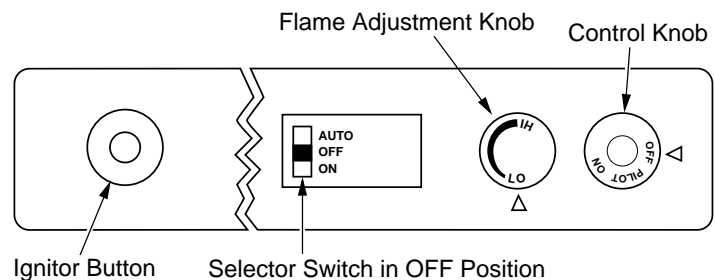

Figure 34 - Control Knob and Ignitor Button Location (Shown as Supplied, No Control Options)
4. Press in and turn control knob clockwise  to the OFF position (see Figure 34).
5. Wait five (5) minutes to clear out any gas. Then smell for gas, including near the floor. If you smell gas, STOP! Follow "B" in the safety information, starting in column 2, page 19. If you don't smell gas, go to the next step.
6. Press in and turn control knob counterclockwise  to the PILOT position. Press in control knob for five (5) seconds (see Figure 34).